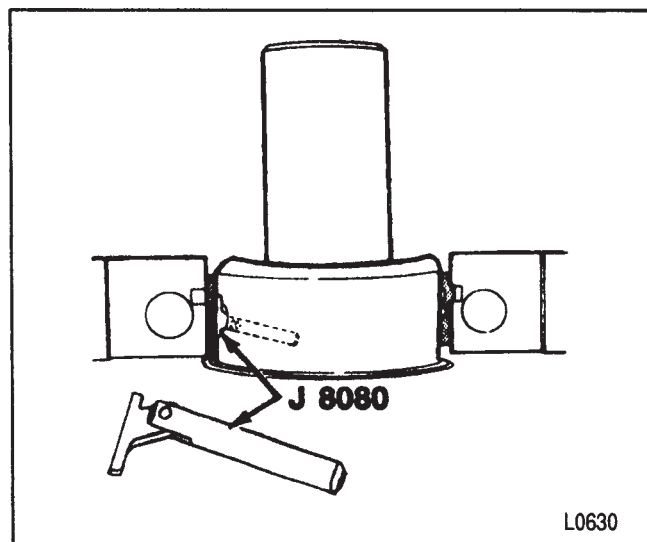

Figure 27—Removing the Upper Main Bearing Insert
- Insert J 8080 into the crankshaft oil hole (figure 27).
**Install or Connect (Figures 27 and 28)**
- A. Insert J 8080 into a crankshaft main bearing oil hole (figure 27).